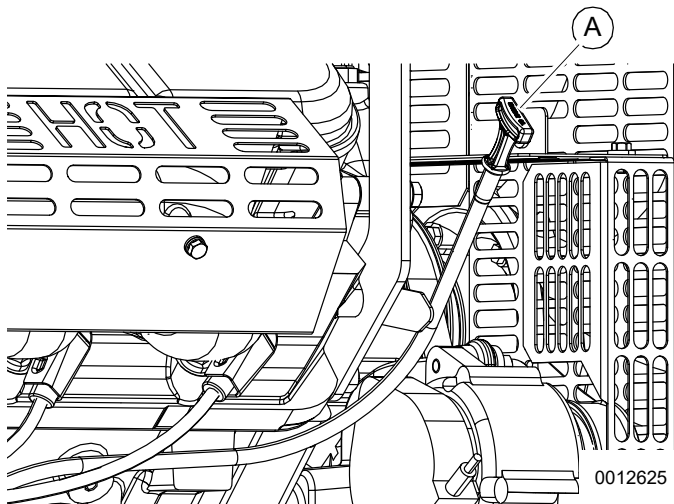

Figure 5-5. Oil Dipstick Location
6. See Figure 5-5. Slowly remove oil dipstick (A).